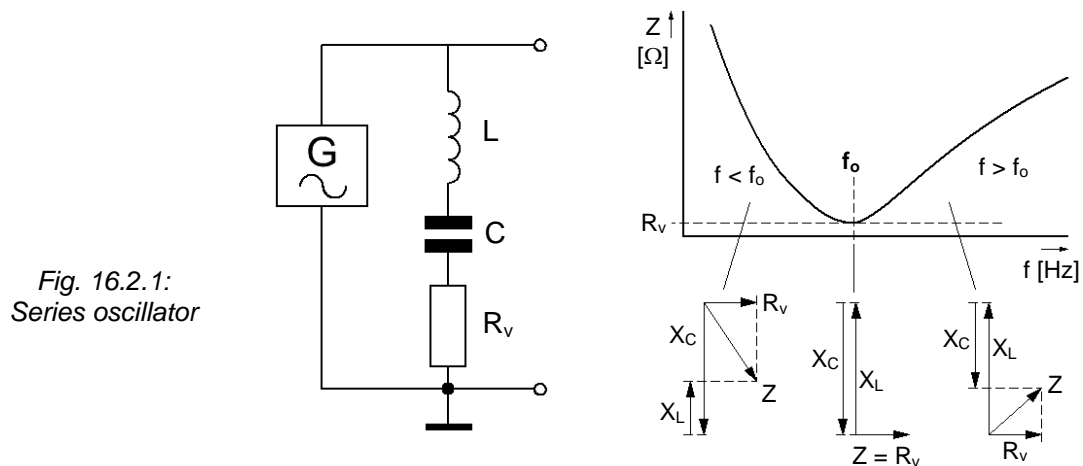

Fig. 16.2.1:
**Series resonance:** Fig. 16.2.1 shows a **series oscillating circuit**, where the coil and capacitor are connected in series. Capacitor and coil 'share' the generator voltage. The series loss resistance  $R_v$  is very small and consists mainly of the ohmic resistance of the coil windings (Fig. 16.2.1).
If the AC voltage generator supplies a sine-wave voltage below the resonant frequency ( $f < f_0$ ), then the reactance  $X_C$  of the capacitor is the dominant factor. A series oscillating circuit is thus capacitive. The higher the frequency, the more  $X_L$  increases, whilst the impedance  $Z$  becomes smaller (Fig. 16.2.1, vector diagram, left).
At the resonant frequency  $f_0$ , the reactances cancel each other. The small, pure ohmic loss resistance  $R_v$  ( $Z = R_v$ ) determines the flow of current in the circuit (Fig. 16.2.1, right). In the case of resonance in a series circuit, current and voltage are in phase (Fig. 16.2.1, vector diagram, centre).
If the frequency is increased above resonance ( $f > f_0$ ), then the series oscillating circuit is inductive, because the reactance of the coil ( $X_L$ ) dominates over the reactance of the capacitor ( $X_C$ ) (Fig. 16.2.1, vector diagram, right).
The curve shown in Fig. 16.2.1,  $Z = f(f)$  is known as the **resonance curve** of the oscillating circuit.